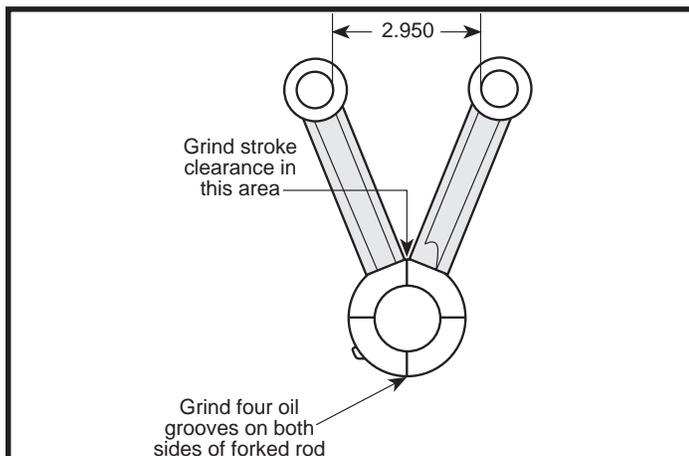

Figure 5
- A. To insure adequate oil on sides of rods and matching thrust surfaces of flywheels, S&S recommends that four grooves be ground on each side of both front and rear connecting rods. **See Figure 5.** Make these grooves .020" to .030" deep and .030" to .040" wide and should be ground 90° from each other. After making grooves, remove all sharp edges and burrs with emery cloth.
- B. With rods assembled, measure distance between rods at closest points in wristpin holes. If measurement exceeds 2.950" as shown in **Figure 5**, grind female rod at points where male rod makes contact to achieve sufficient clearance.